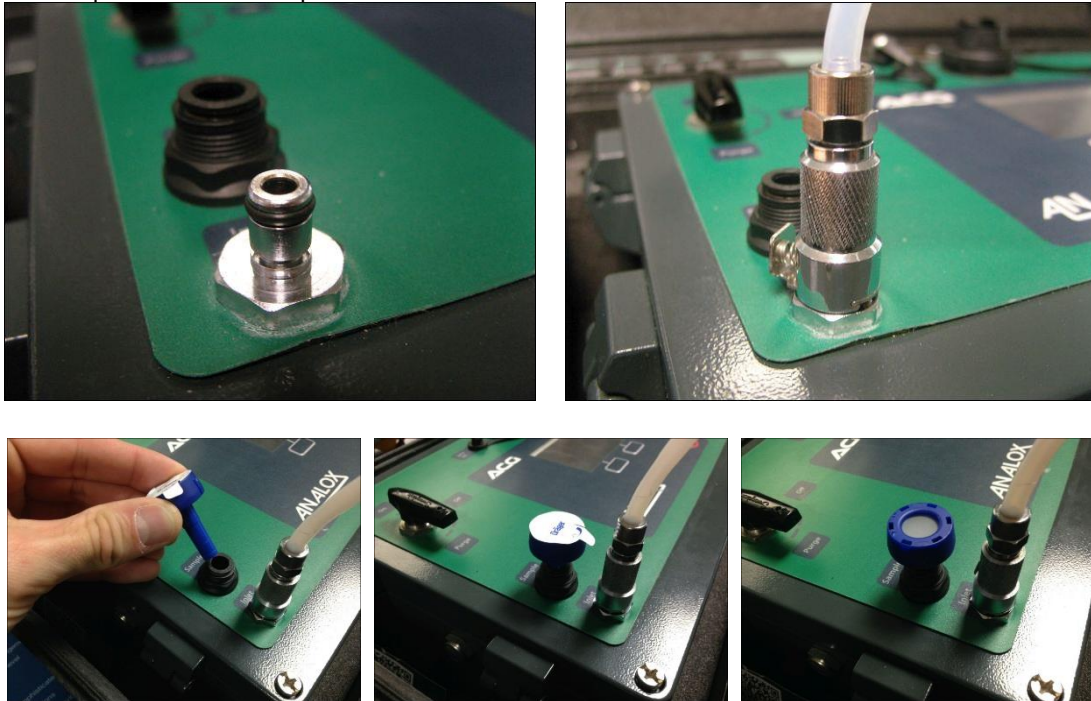

Figure 39 A Dräger Impactor Attached to the Outlet Port for Oil Mist Testing
- 1] Attach the target gas to the sample inlet and the measurement device or sample pipe to the gas outlet port on the ACG+ front panel (see Figure 39).